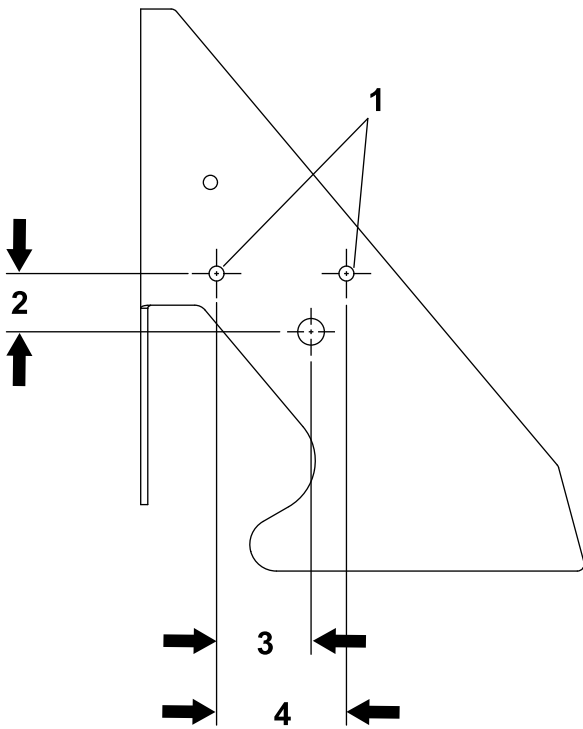
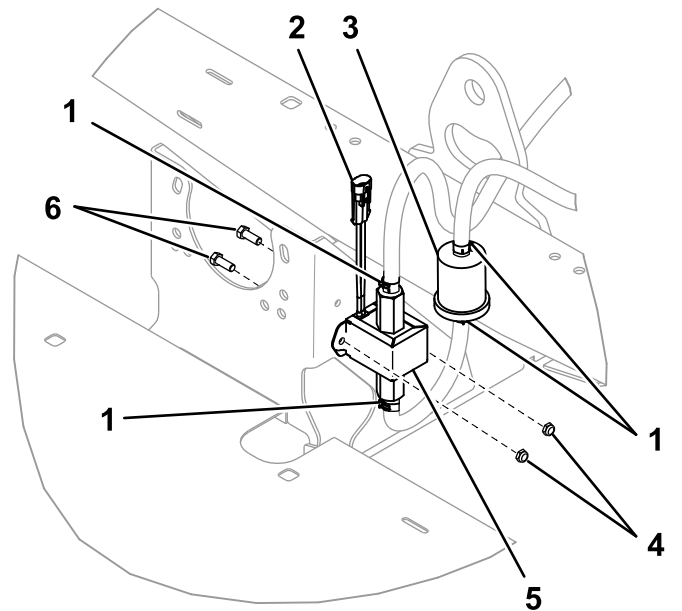

Figure 11
Figure 12
Use Figure 1, Figure 11, and Figure 12 for this procedure.
- Locate, mark, and drill 2 holes (9/32 inch) into the rear plates on the frame as shown in Figure 11.